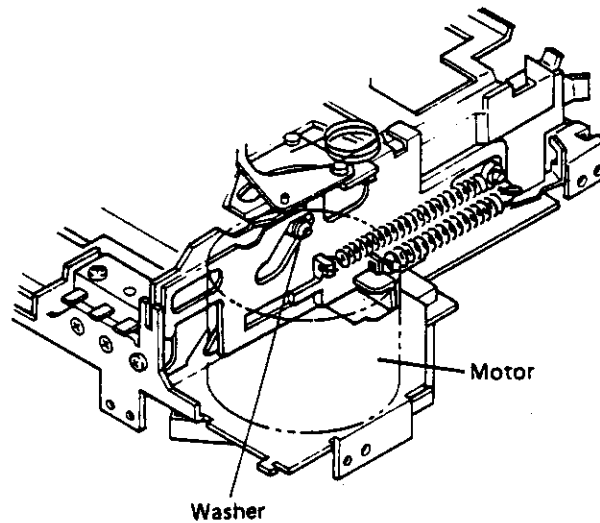

FIGURE 4-20. CASSETTE HOLDER & BASE PLATE REMOVAL
- d. Remove one washer and remove the cassette holder and the base plate (see Figure 4-20).